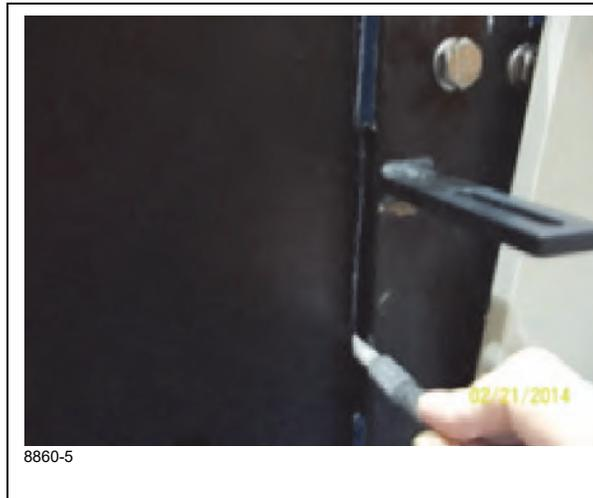

FIGURE 4-22
1. Mark the front of each section with a chalk line as indicated in Figure 4-22.